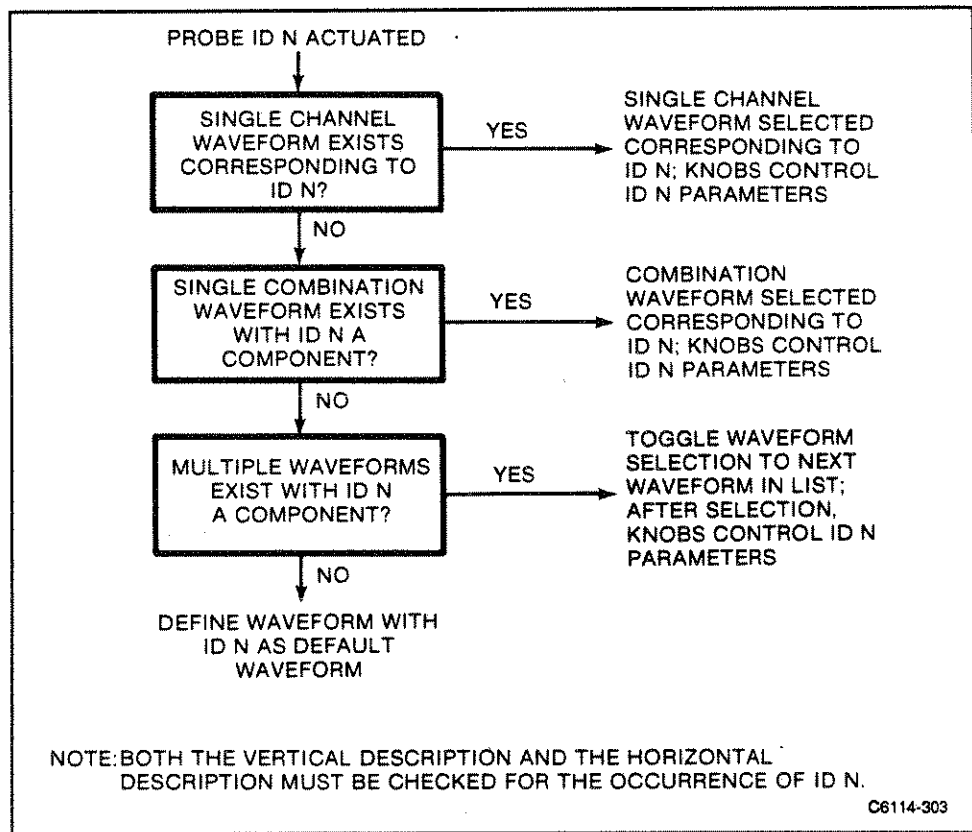

Figure 3-2. Sequence of decisions used to select a new waveform in response to probe ID button.
2. If the **Probe ID Function** (in the **Probes** pop-up menu of the Utility major menu) is set to **Waveform Select/New Wfm**, a waveform will be selected. Figure 3-2 shows the sequence of decisions used to select a new waveform.
3. If the Probe ID Function is set to **Wfm Select/New Wfm & AutoSet**, then the decisions shown in Figure 3-2 will be made, and the resulting selected waveform is autoselected.